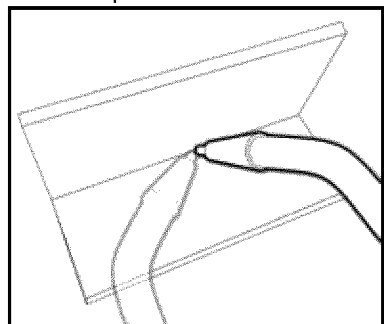

Fig. 10b
2. Angle B (Fig. 10b) is the angle of the torch in relation to your travel direction. Varying this angle can help the operator to see the arc and the weld bead position. It will also increase or decrease penetration. By rotating the contact tip and nozzle in the direction you will travel, it will help decrease penetration by deflecting the force of the arc. By rotating the contact tip and nozzle in the opposite direction that you intend to travel, it will increase penetration by directing the force of the arc into the weld puddle.